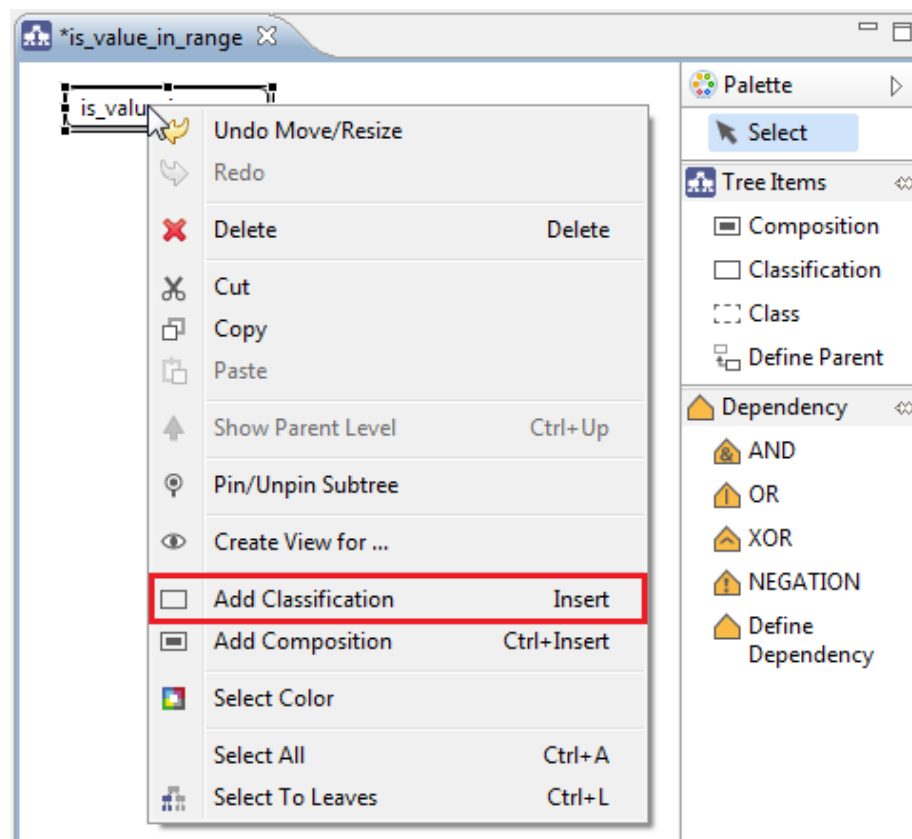

Figure 6.174: Creating a new classification with the context menu
- Choose “  Add Classification ”, see figure 6.174 general information about the Classification Tree Method